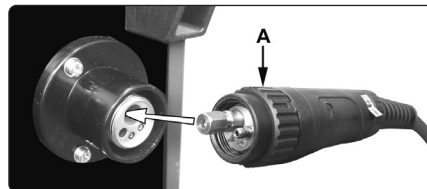
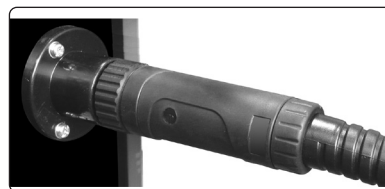

fig.5
fig.6
4.7.1. Align the pins on the Euro connector with the socket on the welder front panel as shown in fig.5. Push the connector into the socket and rotate the locking ring (A) clockwise so that it draws the plug into the socket as shown in fig.6.